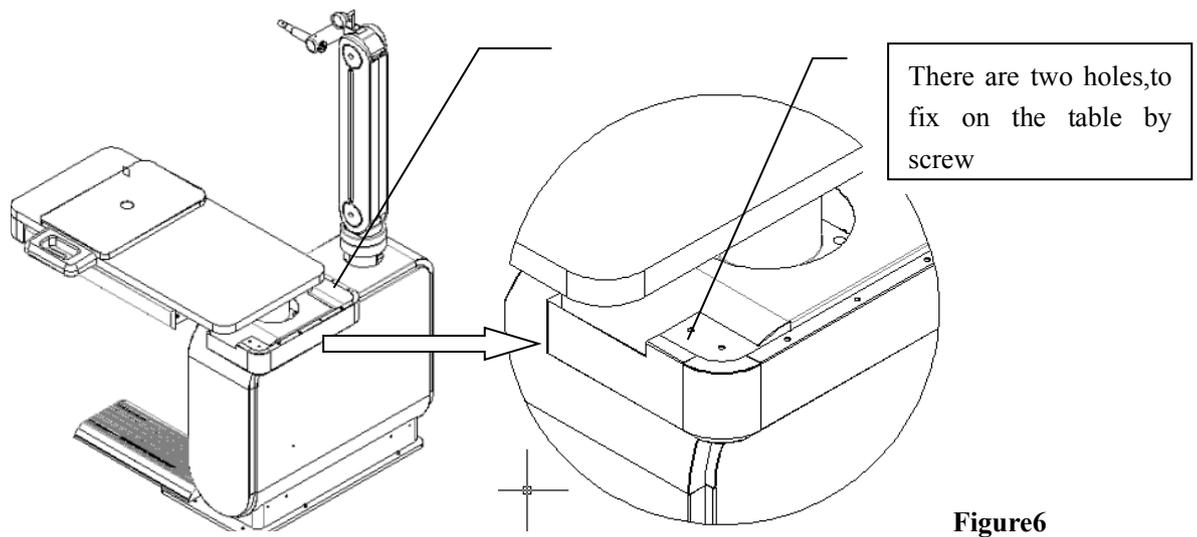

Figure6
- 9) ⑤table parts installation 2: (See figure 6)